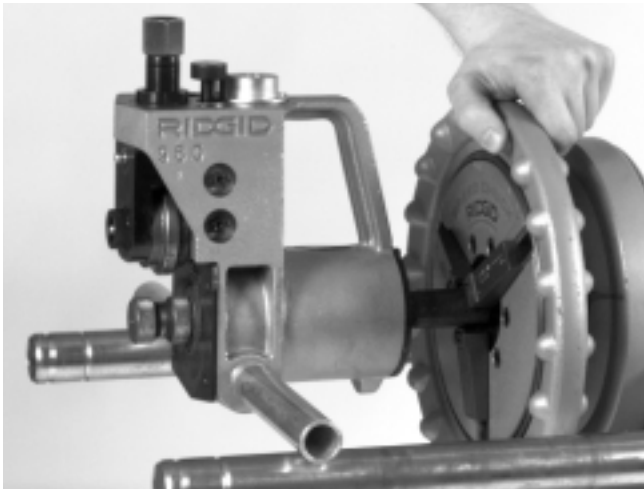

Figure 3 – Installing On 300 Power Drive
4. Place the groover assembly onto the support arms of the 300 Power Drive (Figure 3).